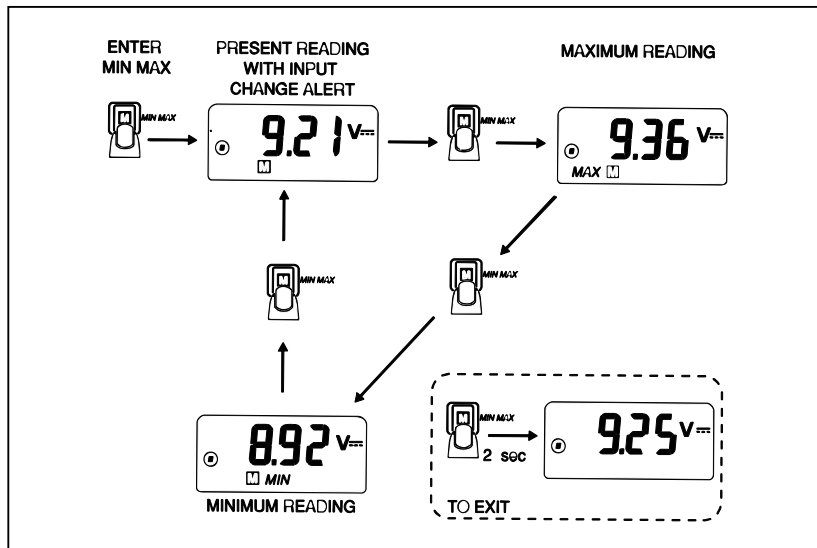

Figure 7. Displaying Minimum and Maximum Reading
4. Press [M] to cycle through maximum, minimum, and present readings (see Figure 7). To exit MIN MAX and erase the stored readings, press [M] for 2 seconds or change the measurement function.